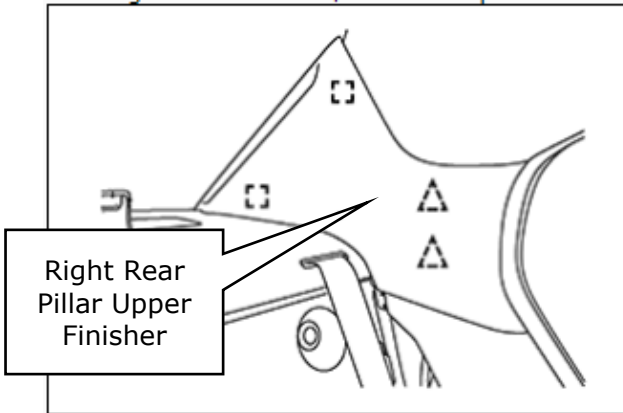

Figure 14
- Using a suitable tool, release the clips shown in Figure 14 and remove the right rear pillar upper finisher (Figure 15)